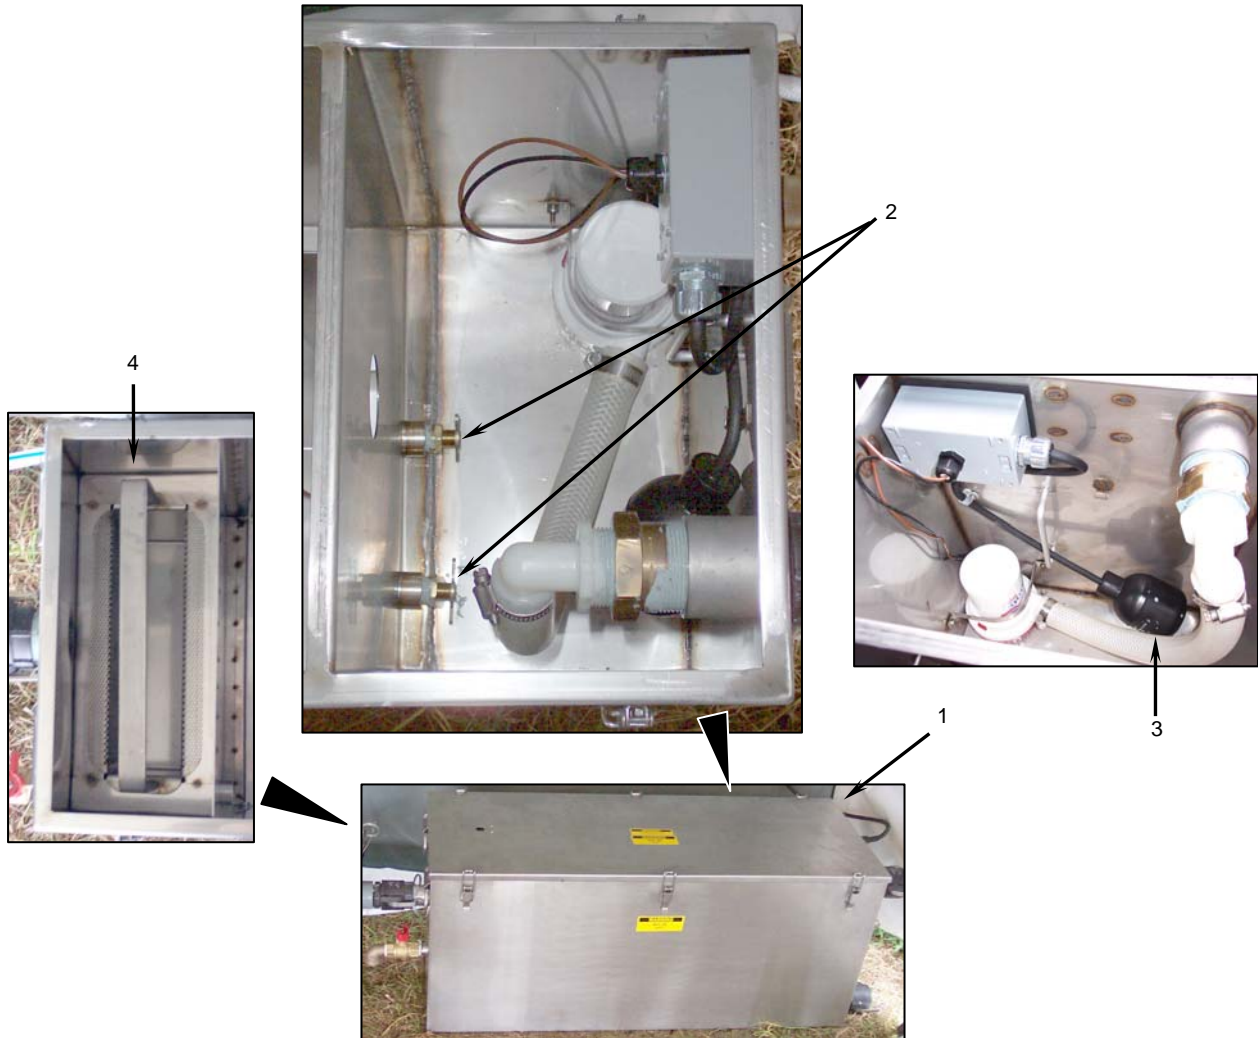

Figure 16. Grease Separator Component Checks.
- g. Remove the grease separator lid (**Figure 16, Item 1**).
- h. Check that the two grease collection compartment drain petcocks (**Figure 16, Item 2**) are closed (turned clockwise all the way in).
- i. Check that the float switch (**Figure 16, Item 3**) is not obstructed and is free to move up and down.
- j. Check that the strainer basket (**Figure 16, Item 4**) is in place.